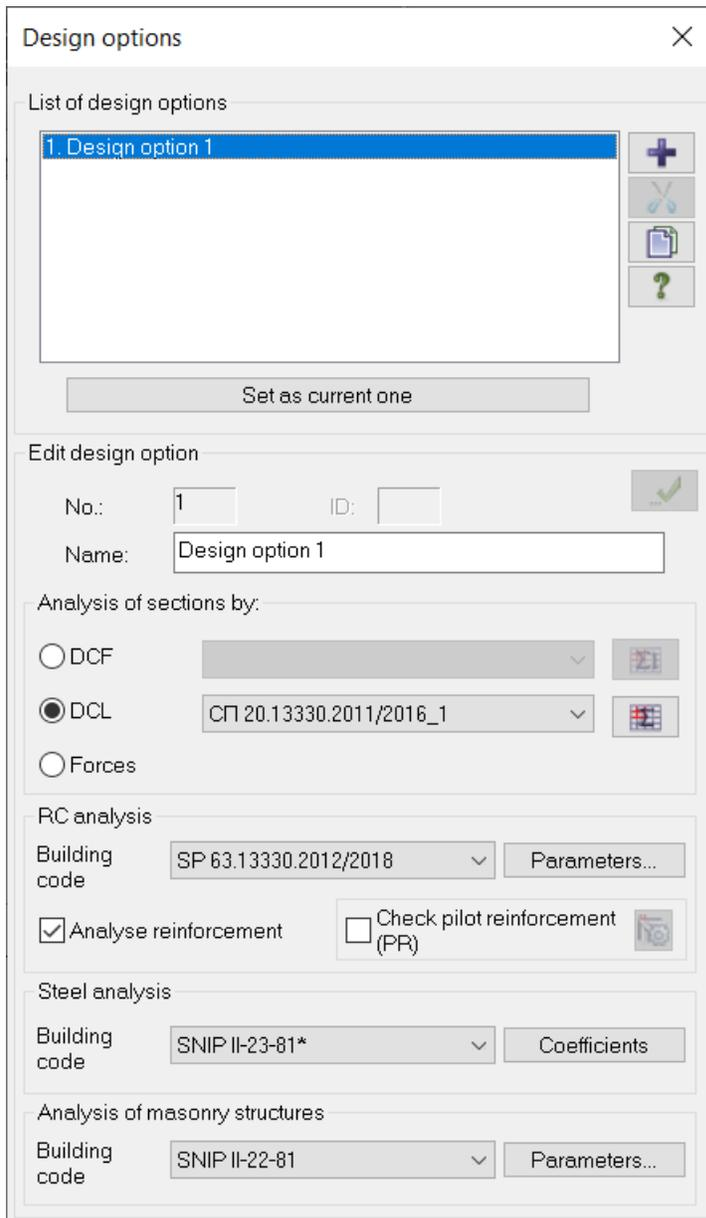

Figure 19.11 **Design options** dialog box
- ⇒ In the **Design options** dialog box (see Fig.19.11), define parameters for the first design option: